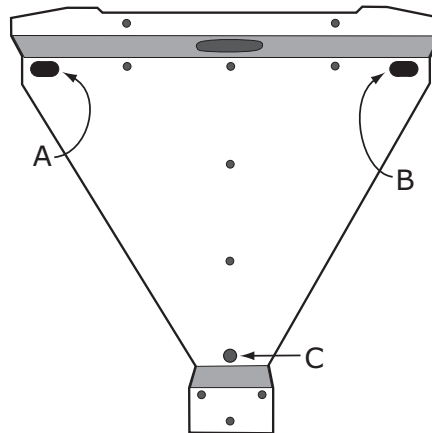

Figure 3-1 V-shaped Mounting Bracket
1. Locate the wall studs in the desired location and align the mounting bracket over the studs. Mark the mounting holes. Ensure that locations A and B (see Figure 3-1) are aligned over the wall studs.
Use an 1/8" screw to secure point C (see Figure 3-1).